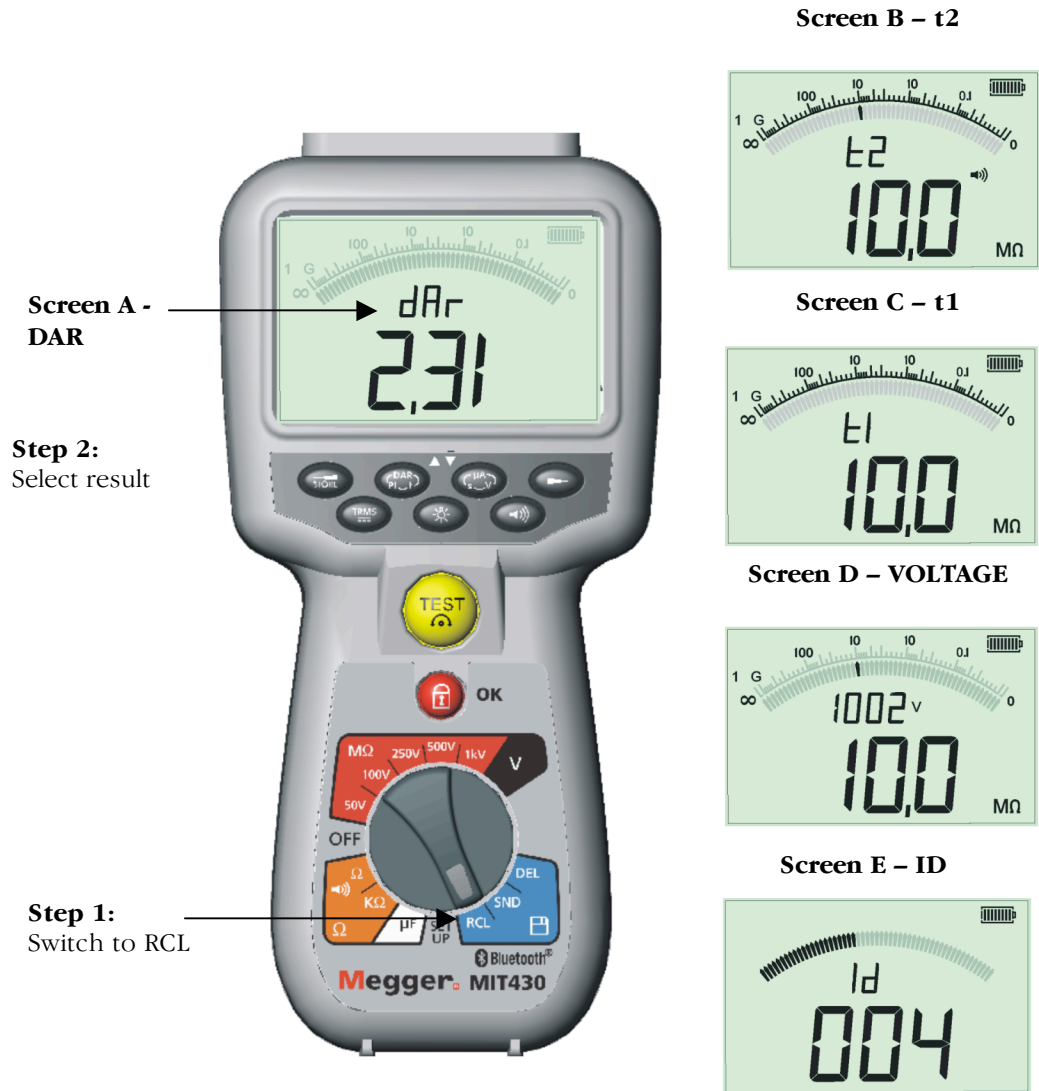

Figure 15 DAR recall results
3. The test result will be displayed. To scroll through the different measurements used in calculating the PI or DAR ratio, use the [◀] and [▶] buttons. See figure 15 screens B to E.